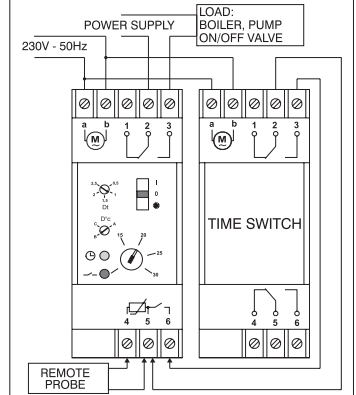

fig.3
- Carry out the electrical connection to the thermostat, terminals 4 and 5 (fig. 3).
In order to obtain a temperature reduction it is necessary to connect the thermostat as indicated in fig.3. The contact to be connected to the time switch or any other control device, must be free from potential. Temperature reduction can be set by means of the regulation trimmer Δ°C. The value, which can be set to the three levels A-B-C indicated on the front of the product, is not fixed, but varies depending on the set temperature. See table on the right.